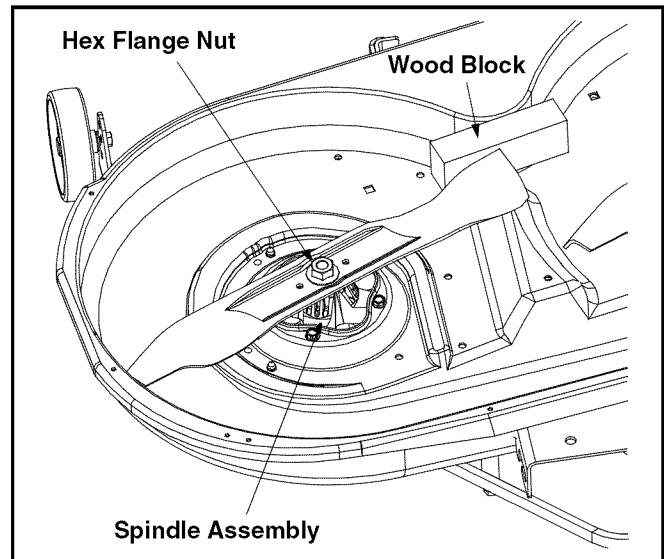

Figure 17
- Use a 15/16" wrench to remove the hex flange nut that secures the blade to the spindle assembly. See Figure 17